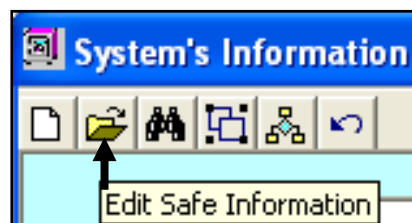

Fig. 7.15
10) You may edit a system by first selecting it using the scroll arrows at the bottom of the window and then selecting the **Edit Safe Information** icon (Fig. 7.15). Select the **Save Data** button to save any changes made or **Delete Data** to delete the system from the database.